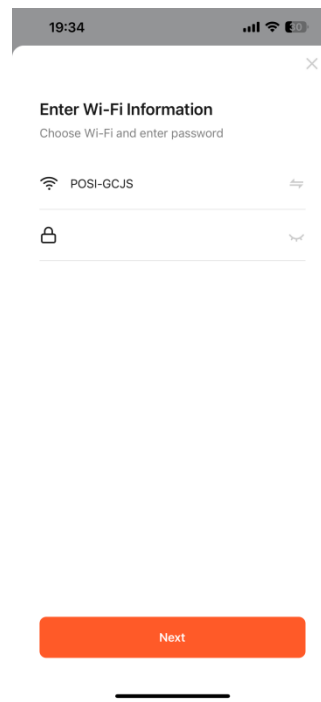
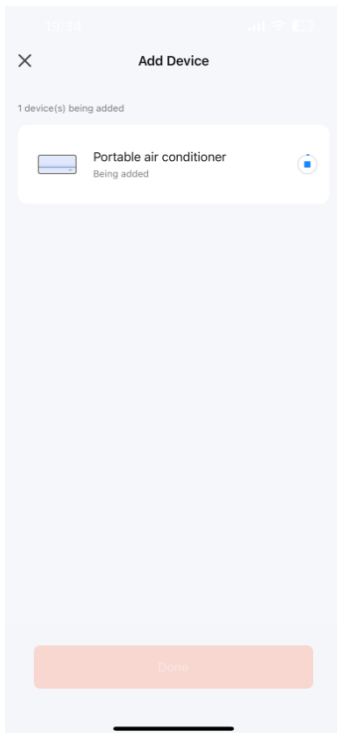

Fig.6
Fig.7
- 3.7. You will get the prompt that asks you to use 2.4 GHz Wi-Fi network and enter password. (Fig.6) Tap “Next” to get Fig.7